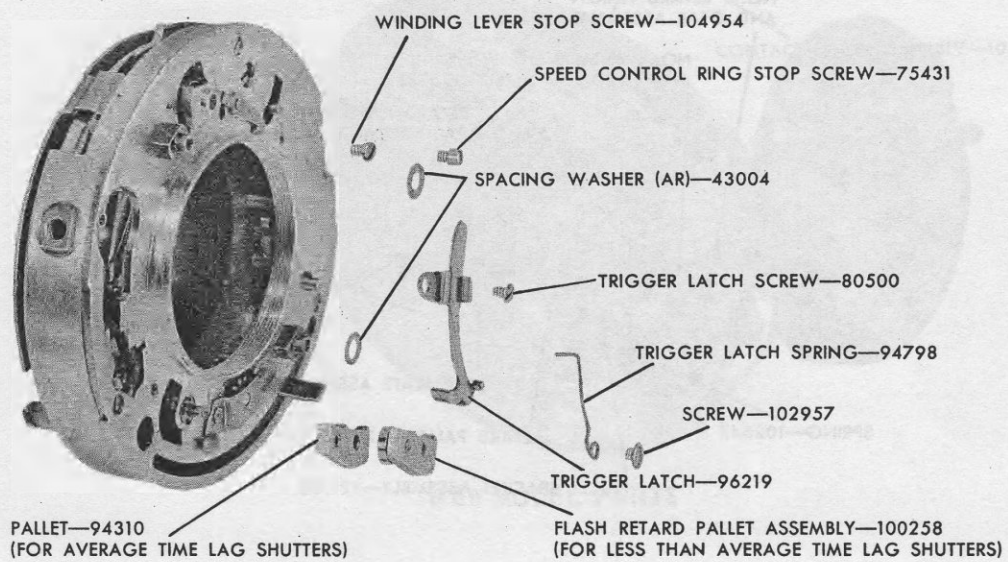

Figure 4
10. STAR WHEEL ASSEMBLY, figure 4.